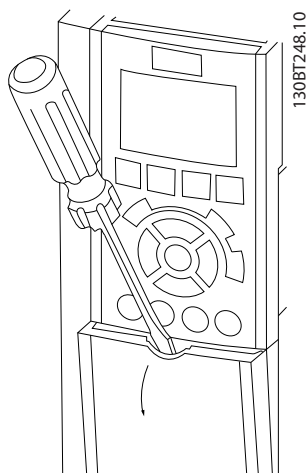
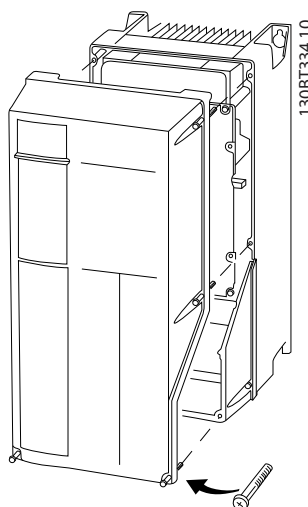

Figure 4.3 Access to Wiring for IP20 and IP21 Enclosures
Figure 4.4 Access to Wiring for IP55 and IP66 Enclosures
- Remove cover with a screwdriver (See Figure 4.3) or by loosening attaching screws (See Figure 4.4).